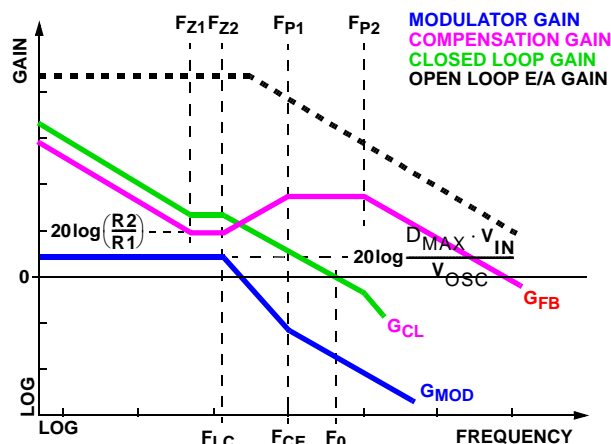

FIGURE 10. ASYMPTOTIC BODE PLOT OF CONVERTER GAIN
Figure 10 shows an asymptotic plot of the DC/DC converter's gain vs frequency. The actual modulator gain has a high gain peak dependent on the quality factor (Q) of the output filter, which is not shown. Using the previous guidelines should yield a compensation gain similar to the curve plotted. The open loop error amplifier gain bounds the compensation gain. Check the compensation gain at  $F_{P2}$  against the capabilities of the error amplifier. The closed loop gain,  $G_{CL}$ , is constructed on the log-log graph of Figure 10 by adding the modulator gain,  $G_{MOD}$  (in dB), to the feedback compensation gain,  $G_{FB}$  (in dB). This is equivalent to multiplying the modulator transfer function and the compensation transfer function and then plotting the resulting gain.